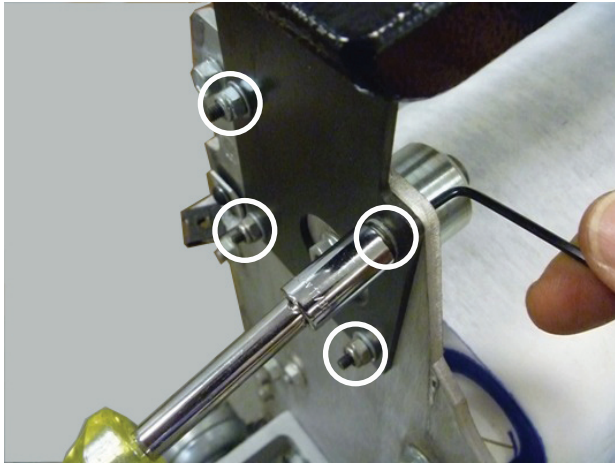

Figure 6
- Using a $\frac{3}{32}$ " Allen wrench and a $\frac{11}{32}$ " socket, remove the four bolts that secure the front bumper side plate to the 7pin side of the machine. Refer to *Figure 6*.